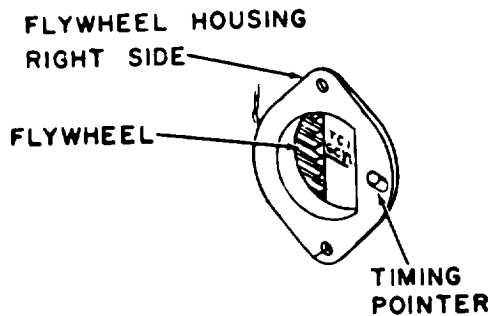

Figure 8-45. Aligning timing pointer on flywheel
3. Rotate crankshaft counterclockwise (as viewed from flywheel end) at least 60 degrees. Continue rotating crankshaft counterclockwise until TC1-6 CYL mark on flywheel is aligned with timing pointer as shown in figure 8-45 and both the inlet